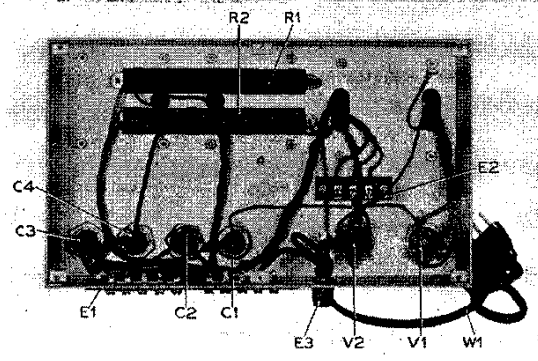

FIG. 5—Bottom view of power supply.
**Power Transformer Primary Tap:** Before plugging the power cord into the a-c line, remove bottom plate from Power Supply to see that power cord is properly connected for the a-c voltage of the power line being used. One wire of the power cord is permanently connected to the fuse-holder (E3, Fig. 5); the other wire is connected at the factory to one of the screw terminals on terminal strip E2 (Fig. 5). These screw terminals are marked 105, 115 and 125, and are connected to primary taps on the power transformer. See that the power cord wire is connected to the screw terminal most closely agreeing with the available a-c line voltage and replace the bottom cover plate.